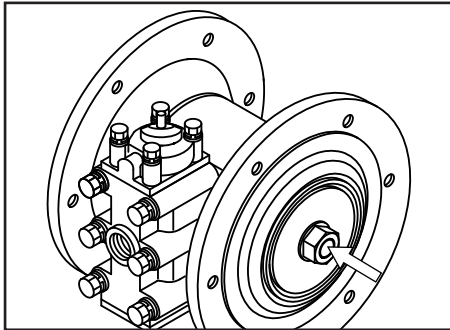

Figure 20
- Remove the nuts on both sides of the center rod (See Figure 20).